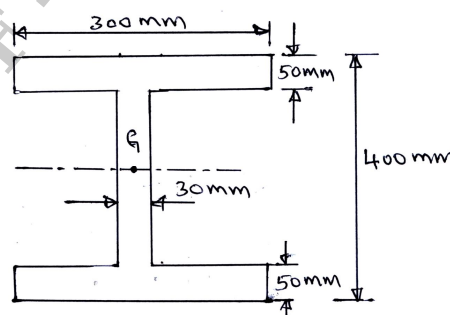

Fig. Q8 (b)
- b. A built up I-section has an overall depth of 400 mm is as shown in Fig. Q8 (b). It is used as a beam with simply supported ends and it deflects by 10 mm when subjected to a load of 40 kN/m length. Find the safe load if this I-section is used as a column with both ends hinged. Use Euler's formula. Assume a factor of safety 1.75 and take  $E = 2 \times 10^5$  N/mm2. (10 Marks)